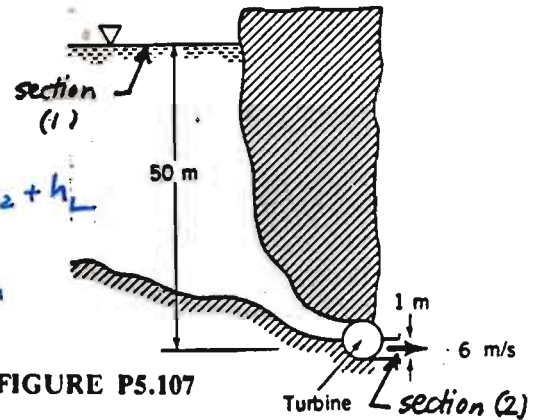

FIGURE P5.107
5.107 What is the maximum possible power output of the hydroelectric turbine shown in Fig. P5.107?